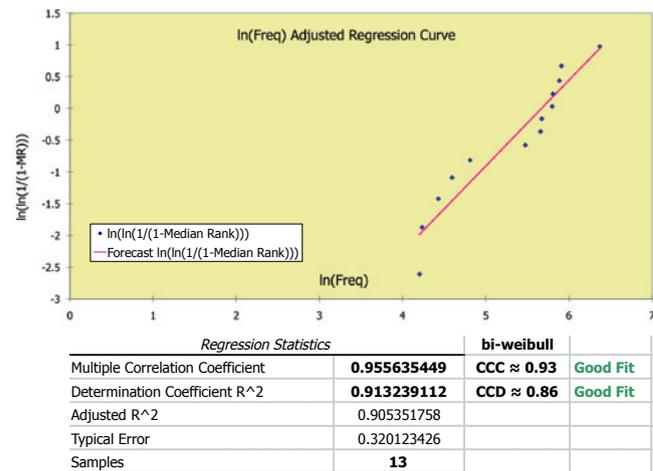

Figure 16 - Regression line for the data set
Figure 16 shows the regression line.
- The dot distribution at the regression line graph (Figure 16), may imply the presence of more than one failure mode.